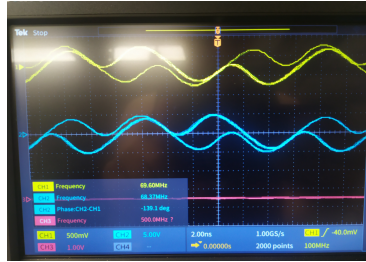

Figure 3: Unexpected waveform on the QM output (corresponding to new frequencies components in the spectrum)
- Sometimes one may observe unexpected waveform on the QM output as shown in Figure 3. (corresponding to new frequencies components in the spectrum). The appearance of these components are likely caused by an voltage overflow. The output range of QM machine is $[-0.5, 0.5]$ V. Applying the IQ imbalance matrix for example can result in higher voltage values at the analog output than the voltage specified on the **waveforms** in the **configuration.py** file. One need to make sure that the overall voltage is within the range of the analog outputs. Any overflow will be automatically clamped by QM therefore causing unwanted harmonics.